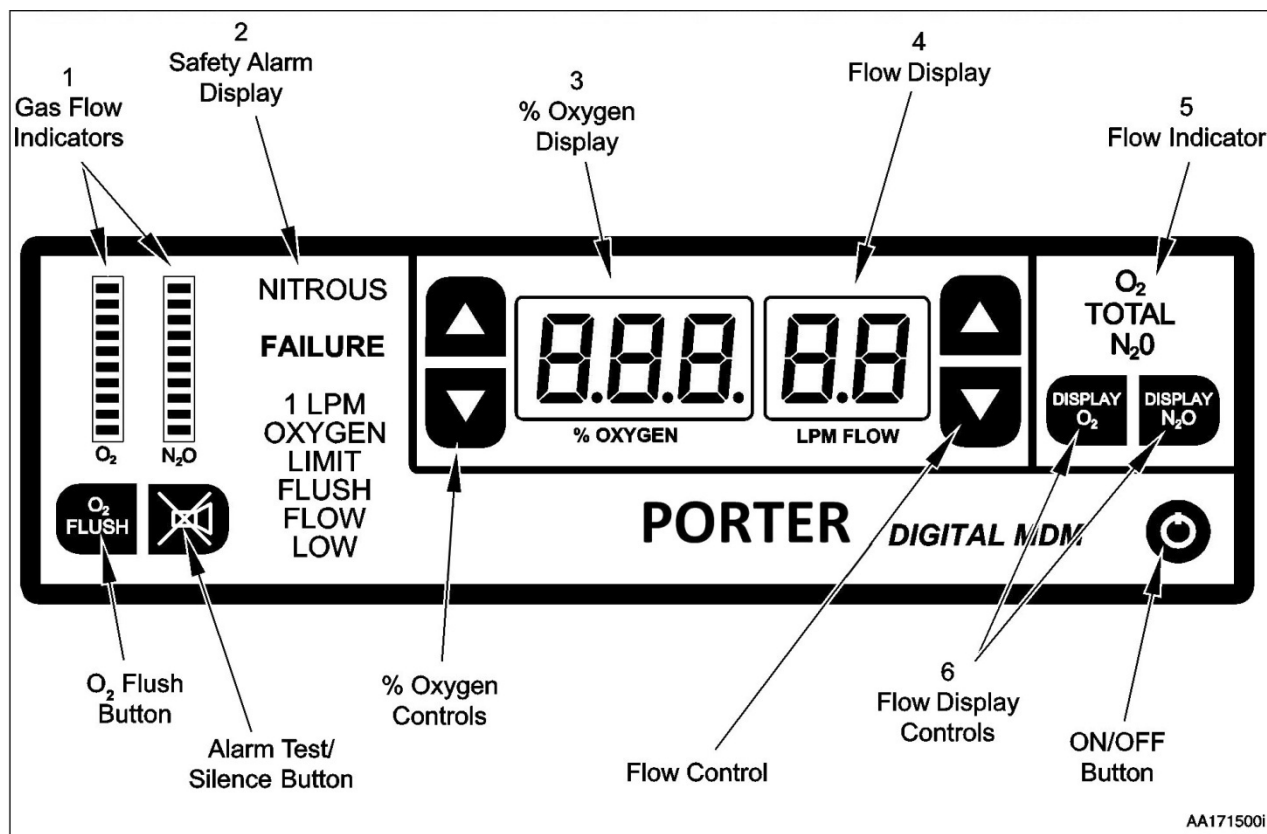

Figure 1. PORTER DIGITAL MDM Mixer Control Unit Front Panel
Description of Unit: The DIGITAL MDM mixer consists of a Control Unit attached to a Base Unit via an Interface cable. Note - Control and Base Units are calibrated together and must remain together (match serial numbers on each unit). Only use Porter Interface cable (EMI protection). The Control Unit interface is shown in Figure 1. The device permits the operator to adjust the percent of oxygen through a range of 100% to 30% (and thereby control the ratio of oxygen to nitrous oxide). The operator can also control the total volume of mixed gas up to 9.9 liters per minute.
Displays and Indicators: In the following, the location numbers refer to Figure 1.
There are four alarm conditions on the DIGITAL MDM mixer. They appear in the safety alarm display (see Figure 1, item 2) only when conditions warrant. Otherwise, they are not visible. The alarm conditions are: